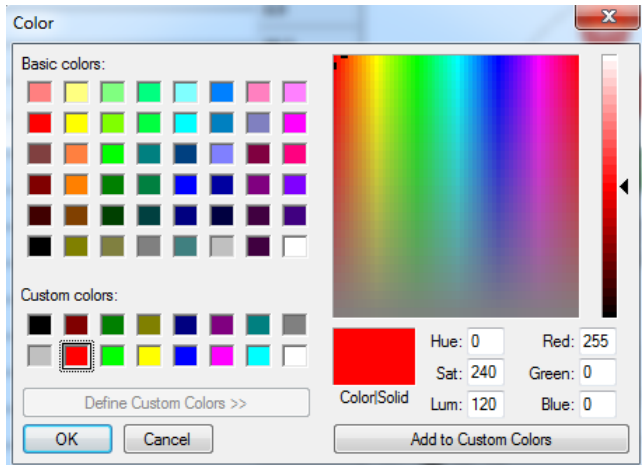

Figure 31 – Color palette
- Click the color panel to the left of the drop-down menus to open the color palette (**Figure 31**). Choose a color for the channel.